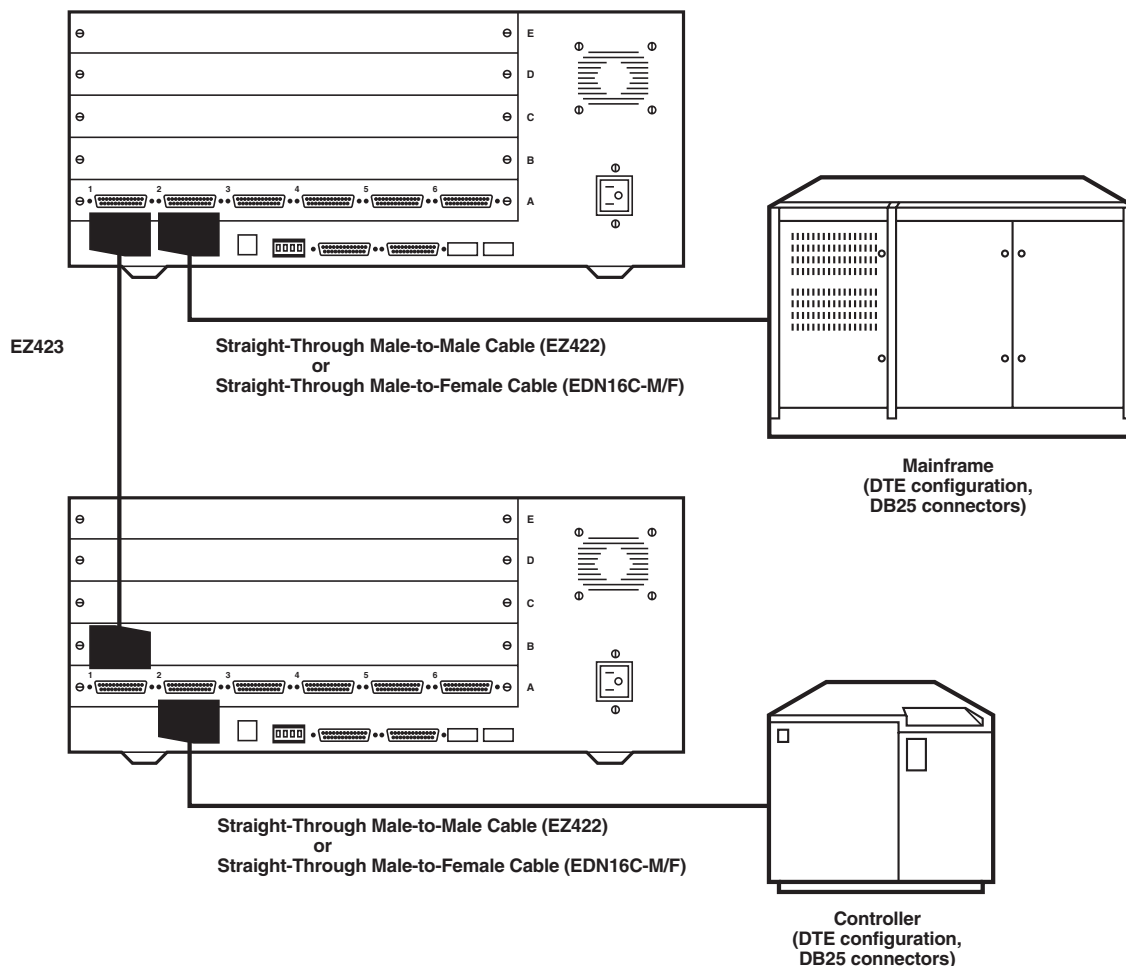

Figure 7-4. Bench Configuration for a Sync Data Channel.
Figure 7-4 shows a typical sync application: a mainframe at the headquarters and a remotely located controller. Some companies have a lab with an extra controller for program-testing purposes. In this case, you can include the sync channel in your Bench Configuration.
2. Connect your two terminals to any two async data channels. For example, connect A3 and A6 on the CCM, B4 and B11 on the 12-Channel Expansion Module, or A4 and B7. In **Figure 7-4**, one terminal is connected to port A4; a second to port A5.